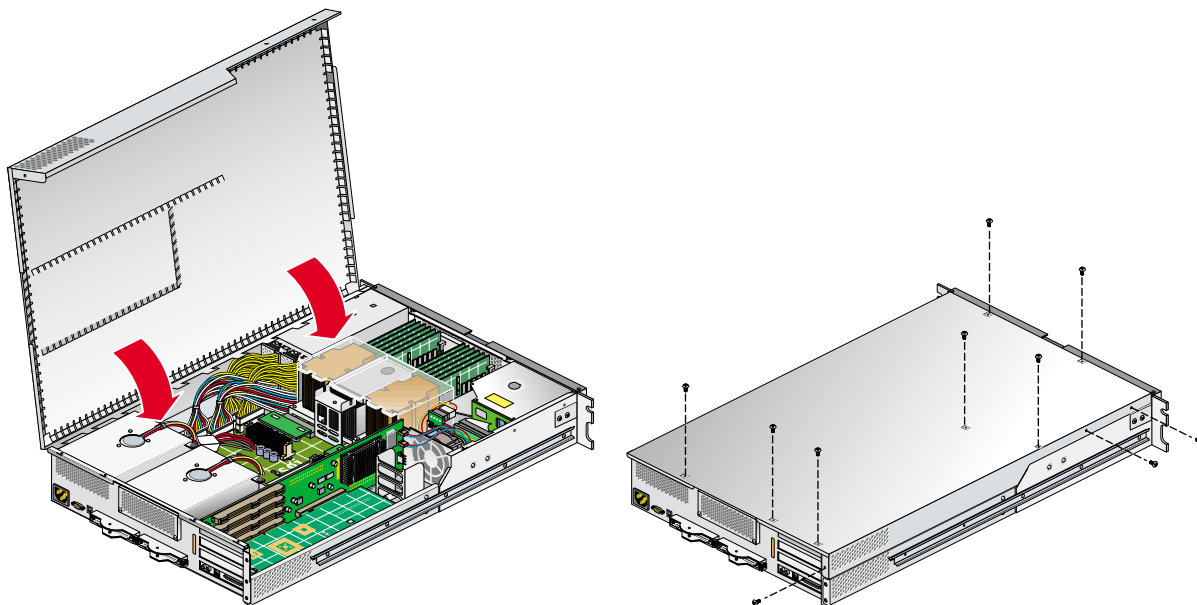

Figure 3-2 Closing the System Cover
3. Close the hinged cover on the system and screw in the ten Phillips screws to secure the cover, as shown in Figure 3-2.